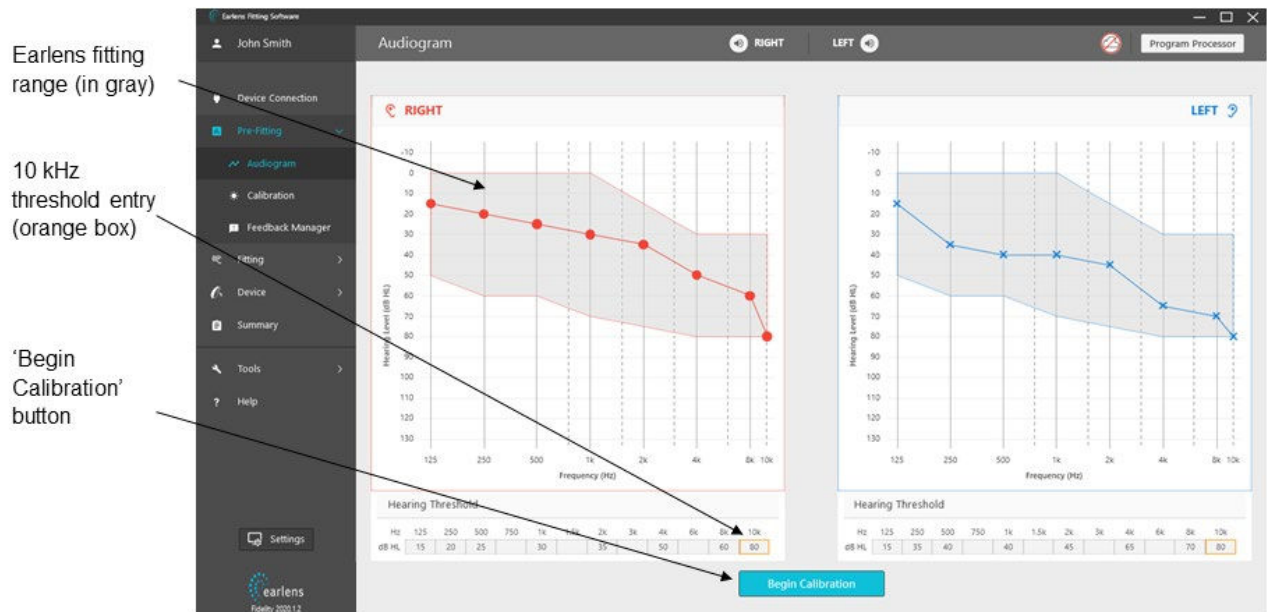
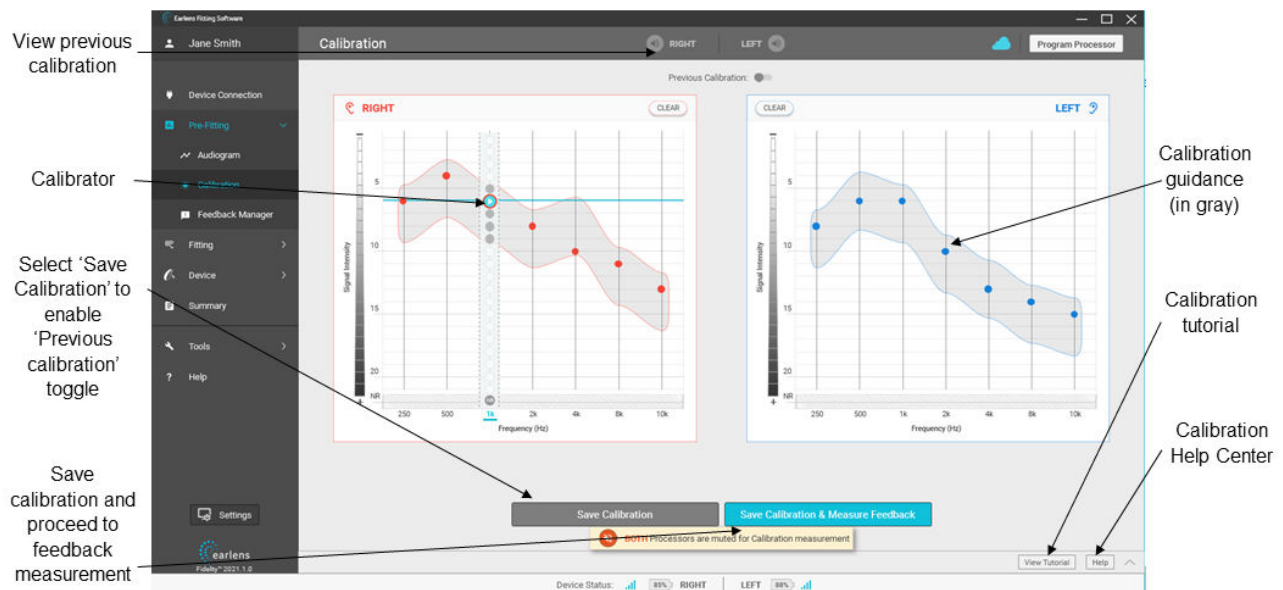

Figure 12: Audiogram screen
Figure 13: Calibration screen
- Enter the 10 kHz threshold, when available (Figure 12). If not available, Earlens Fidelity™ software will predict the 10kHz threshold based on the in-situ calibration results (Figure 13).
- Calibration:** Measure in-situ calibration by presenting tones at different frequencies. You can also use 'Previous Calibration' toggle button to view up to two previously stored calibrations (if available) (Figure 13). Gray shaded area shows calibration guidance range which is the expected range of calibration for a given audiogram.
Enter the 10 kHz audiometric threshold for the right and/or left ear into the orange boxes, if available (Figure 12). If this frequency was not tested, Earlens Fidelity™ software will estimate the 10kHz threshold based on the slope and severity of hearing loss at adjacent frequencies. Note: To program the Processors, audiometric thresholds and Calibration measurements must be completed.
- Select "Calibration" under Pre-Fitting in the navigation bar to view the Calibration screen (Figure 13).
- Find the patient's threshold at each frequency by presenting tones of increasing intensity until the patient is just able to detect the signal. Standard audiometric threshold seeking practices are recommended for this process. You can practice how to use the calibrator by clicking the 'View Tutorial' button. Calibration Help Center can be accessed using the 'Help' button. The Help Center lists answers to frequently asked questions about calibration (Figure 13). Tones can be presented in two ways: